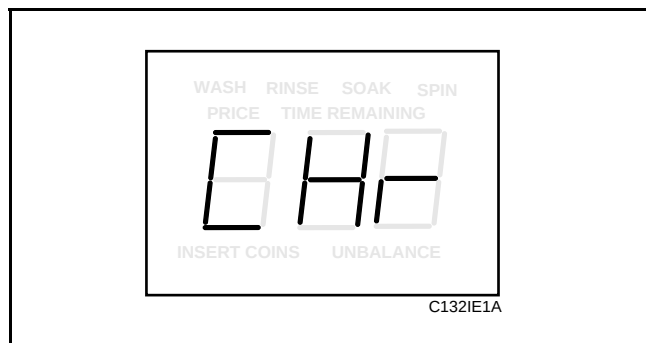

Figure 92
3. Press the DELICATES (+) pad or the COLD (–) pad to scroll through the programmable options until “CHr” appears in the VFD. See **Figure 92**.